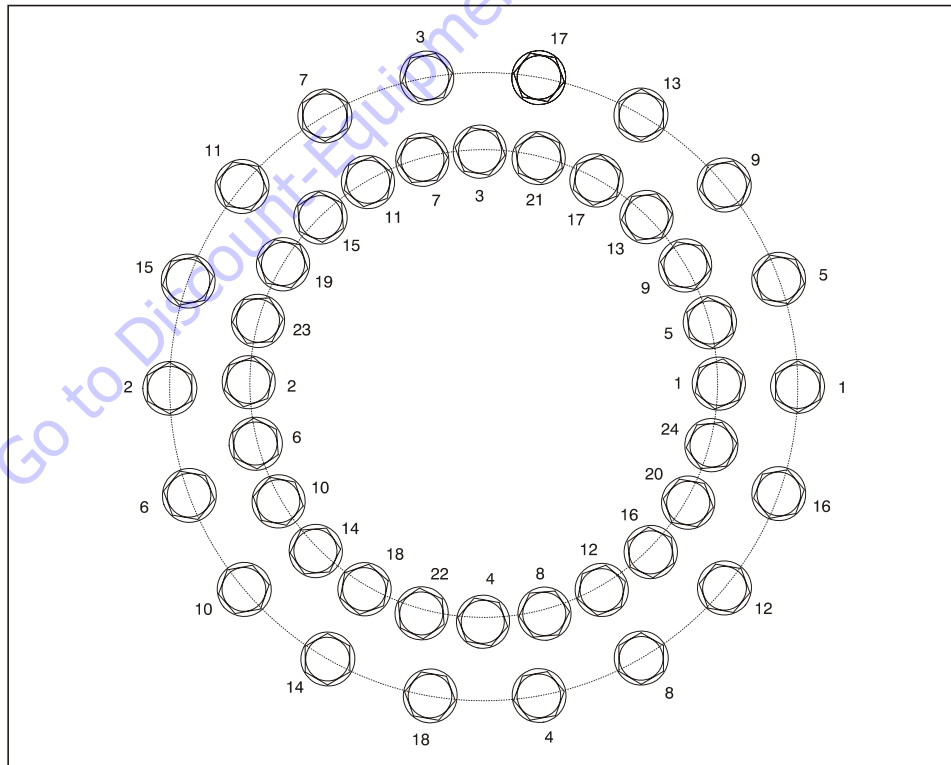

Figure 3-15. Swing Bearing Torquing Sequence
- b. Line up high spot (blue) of bearing with center tooth of worm gear. Set backlash to 0.008 - 0.010 inch (0.20 - 0.25 mm). Tighten capscrews as shown in Figure 3-15., Swing Bearing Torquing Sequence.
- g. Following the torque sequence diagram shown in Figure 3-15., tighten the bolts to an initial torque of 130 ft. lbs. (175 Nm). Then following the same sequence, tighten to a final torque of 190 ft. lbs. (260 Nm).
3. Following the torque sequence shown in Figure 3-15., tighten the bolts to an initial torque of 130 ft. lbs. (175 Nm). Then following the same sequence, tighten the bolts to 190 ft. lbs (260 Nm).